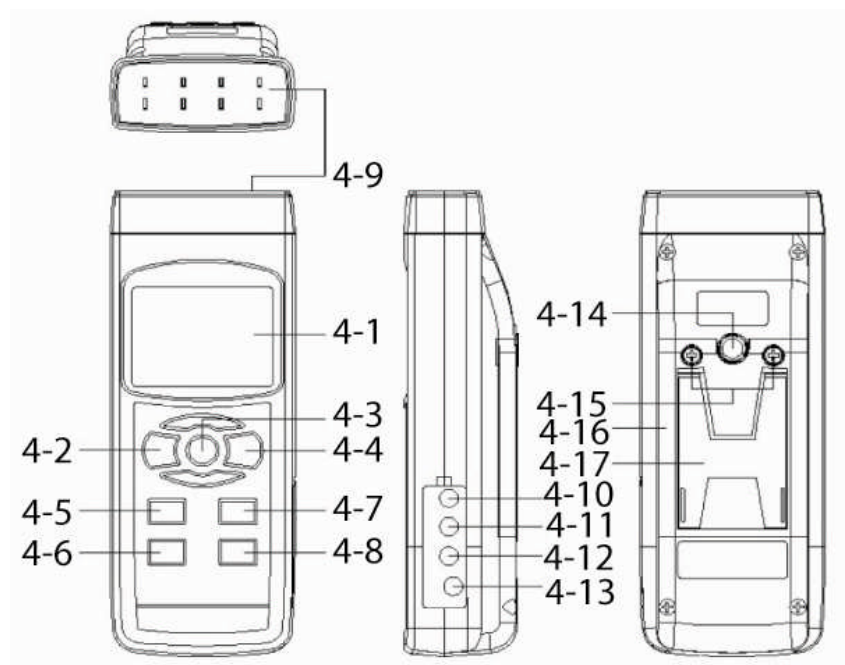

Fig. 1
1. Power on the meter by pressing the “Power Button” (4-3, Fig.1). Note: to turn the power off, press and hold the “Power Button” (4-3, Fig.1) for about 2 seconds.
3. Select the unit of measure, either °C or °F by pressing the “°C/°F Button” (4-6, Fig. 1). The LCD will display the unit of measure. For convenience the meter will retain the unit of measure when it is turned off.
4. Insert the Type K probes into the “Thermocouple Input Socket” (4-9, Fig. 1).
2. Press “Function Button” (4-5, Fig. 1) once. You will see a letter J on the top of the LCD.
4. Insert the Type J probes into the “Thermocouple Input Socket” (4-9, Fig. 1).
2. Press “Function Button” (4-5, Fig. 1) twice. You will see the letters Pt on the bottom right of the LCD.
4. Insert the Pt1 probe into the “Pt1 Input Socket” (4-10, Fig. 1) and/or insert the Pt2 probe into the “Pt2 Input Socket” (4-11, Fig. 1).
1. With the probes already inserted and the meter already setup for either K, J or Pt functions, press the “T1-T2 Button” (4-7, Fig.1).
While taking measurements you can freeze the displayed value by pressing the “Hold Button” (4-3, Fig. 1) once. The HOLD symbol will be displayed along with the held measured value on the LCD. By pressing the “Hold Button” (4-3, Fig. 1) a second time will release the displayed value and turn off the data hold function.
1. To record the maximum and minimum readings, press the “REC Button” (4-4, Fig. 1). The REC symbol will be displayed on the LCD. By pressing the “REC Button” (4-4, Fig. 1) you can toggle through the Max and Min values.
2. To delete the recorded values press and hold the "Hold Button" (4-3, Fig. 1) for about 3 seconds.
3. To stop using the REC function, press and hold the "REC Button" (4-4, Fig. 1) for at least 3 seconds.
1. Press and hold the "Sample Time Button" (4-8, Fig. 1) for about 3 seconds. The bottom of the LCD will display "oFS" and "SP-t". To leave the setting menu press the "ESC Button" (4-3, Fig.1).
2. Press the "R Button" (4-7, Fig. 1). The LCD display will now show "SP-t" on the top of the LCD, a "00" on the bottom left and a flashing "00" on the bottom right.
3. The bottom left "00" is for minutes adjust and the bottom right "00" is for seconds adjust. To toggle between the seconds and minutes press the "Sample Time Button" (4-8, Fig. 1). The value flashing is the value that will be adjusted.
4. To change the sampling seconds time, use the "▲ Button" (4-5, Fig.1) and/or the "▼ Button" (4-7, Fig.1).
5. Press the "Enter Button" (4-4, Fig. 1) to save settings. Both the seconds and minutes values will flash four times and the unit will then go in to standard measurement mode.
6. If you wish to cancel the settings during the four seconds of display flashing, press the "ESC Button" (Fig. 1).
7. Press the "REC Button" (4-4, Fig.1) momentarily to start the data log function. The REC symbol will be displayed on the LCD. The data logger function can save up to 1000 values of measure (either Humidity & Temp. or Dew Point & Temp).
8. Press the "Logger Button" (4-8, Fig.1) and the meter will start logging. You will see the A flashing on the top of the LCD every time a logging event has occurred. The A flashing will match the number of seconds you set in the setup of the data logger function.
1. Press the "REC Button" (4-4, Fig.1) momentarily to start the data log function. The REC symbol will be displayed on the LCD. The data logger function can save up to 1000 values of measure (either Humidity & Temp. or Dew Point & Temp).
2. Press the "Logger Button" (4-8, Fig.1) every time you would like the meter to record a value. You will see an A flash in the top of the LCD. The meter will not record another measurement until you press the "Logger Button" (4-6, Fig.1) again.
4. To change the sampling seconds time, use the "▲ Button"(4-5, Fig.1) and/or the "▼ Button"(4-7, Fig.1).
1. Pressing the "CLR Button" (4-6, Fig. 1) for about 3 seconds the LCD will display on the bottom "Send" and "CLr".
2. Press the "R Button" (4-7, Fig. 1) and the LCD will display the number of data points stored in to memory and to enter the clear memory function.
3. Use the "▲ Button"(4-5, Fig.1) and/or the "▼ Button"(4-7, Fig.1) to change the "n" and "Y" in the bottom right of the LCD. The "n" and "Y" are displayed to allow you to tell the meter either "n" NO do not clear memory or "Y" YES clear the memory.
4. Once you have set your answer to either "n" or "Y", press the "Enter Button" (4-4, Fig. 1). The stored data number will flash for about four times and then the meter will go to the normal measuring mode. To cancel your selection of "n" or "Y" after you pressed the "Enter Button" (4-4, Fig. 1), press the "ESC Button" (Fig. 1). You will then be able to change your answer and repeat step 4.
1. Pressing the "Send Button" (4-6, Fig. 1) for about 3 seconds the LCD will display on the bottom "Send" and "CLr".
2. Press the "L Button" (4-5, Fig. 1) and the LCD will display the number of saved data points on the top of the LCD and the memory balance in the lower LCD.
3. Press the "Send Button" (4-6, Fig. 1) once will send the data out and the LCD will show the data points being send from zero to the number of stored data.